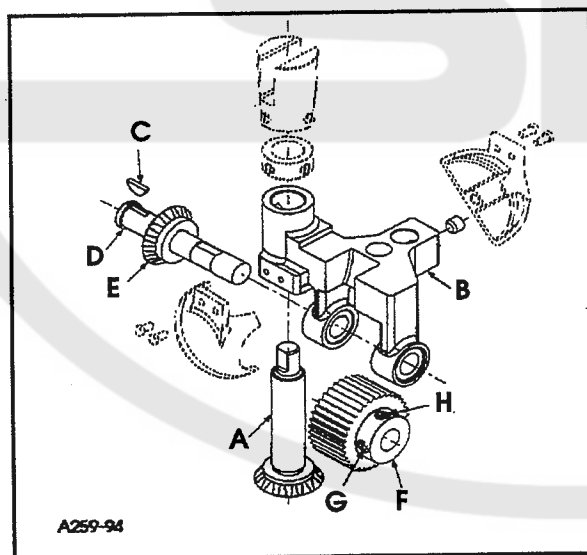

FIG. 17
Assemble driven gear (A, Fig. 17) through feed roller frame (B). Place woodruff key (C) into slot of feed roller shaft (D). Slide driven gear (E) on to shaft (D), make sure key (C) goes into slot in gear (E). While holding feed roller frame (B) with steel roller (F) between the two frame lobes, slide feed roller shaft (D) and assembled components through frame. Make sure that shoulder of roller (F) is to the right. Align screw (G) (first in operating direction on roller) on the flat of shaft (E). At the same time thrust shoulder of shaft (D) against face of gear (E), make sure left edge of roller is against right (inside) face of left lob. Secure screw (G) on flat of shaft (D) and tighten screw (H).